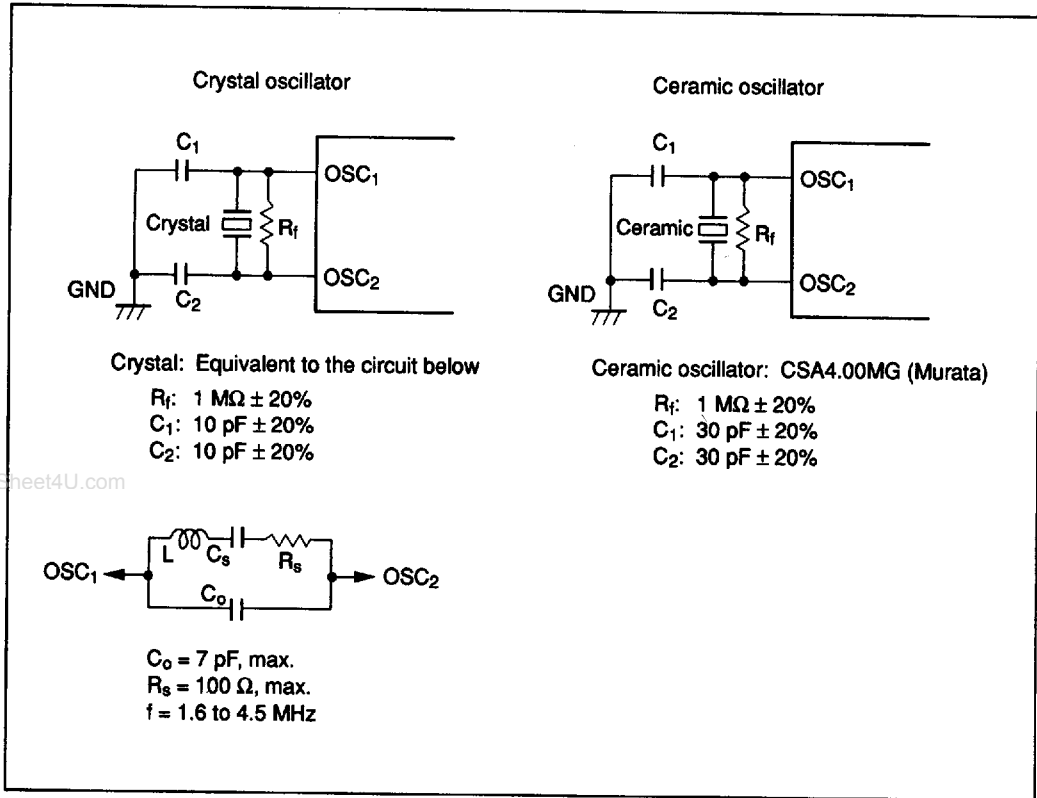

Figure 56 Oscillation Circuits (1)
- Notes: 1. The oscillation stabilization time is the period required for the oscillator to stabilize after  $V_{CC}$  reaches 3.0 V (3.5 V if  $V_{CC} = 3.5$  to  $6.0$  V: HD404720/HD404728/HD404729;  $V_{CC} = 3.5$  to  $5.5$  V: HD4074720/HD4074729) at power-on or after RESET input goes high after stop mode is cancelled (figure 56). At power-on and when stop mode is cancelled, RESET must remain high for at least  $t_{RC}$  to ensure the oscillation stabilization time. If using a crystal oscillator, contact the manufacturer to determine what oscillation stabilization time is required, since it depends on the circuit constants and stray capacitances.